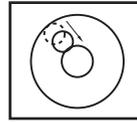

Fig.9
- Use the foot screws to bring the bubble halfway to the centre (Fig. 9, below)